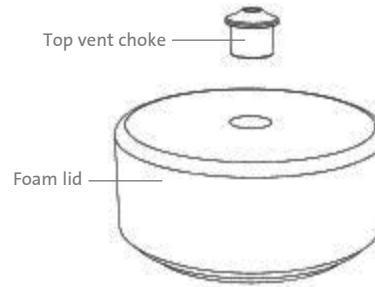

Figure 4
- ▶ Insert the top vent choke into the foam lid from the top side of the lid. **IMPORTANT: The tapered flange should be on the outside of the Corning® CoolCell® FTS30 container (Figures 4 and 5).**